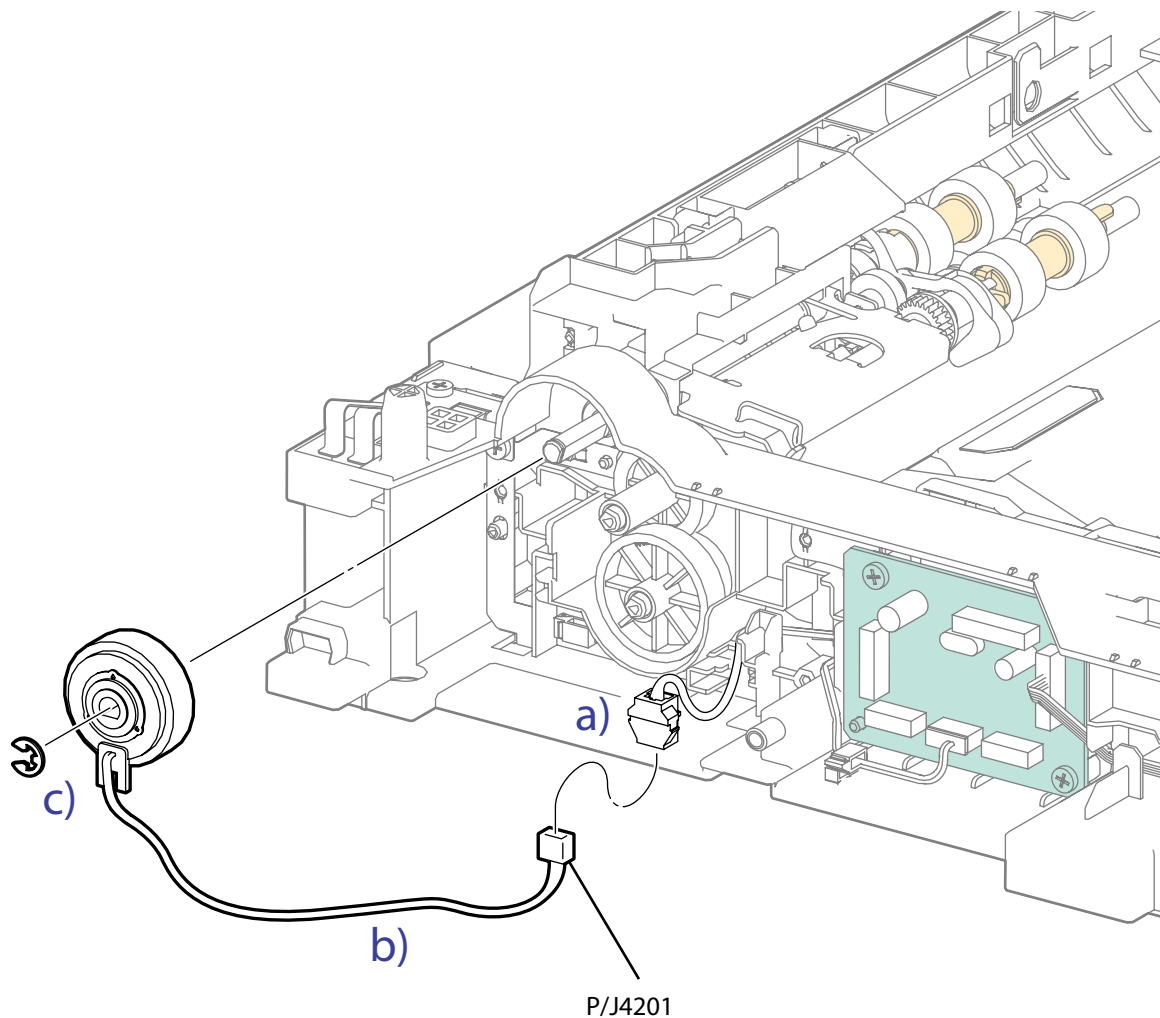

Figure 1
5. Remove the Feed Clutch Assembly. (Figure 1)